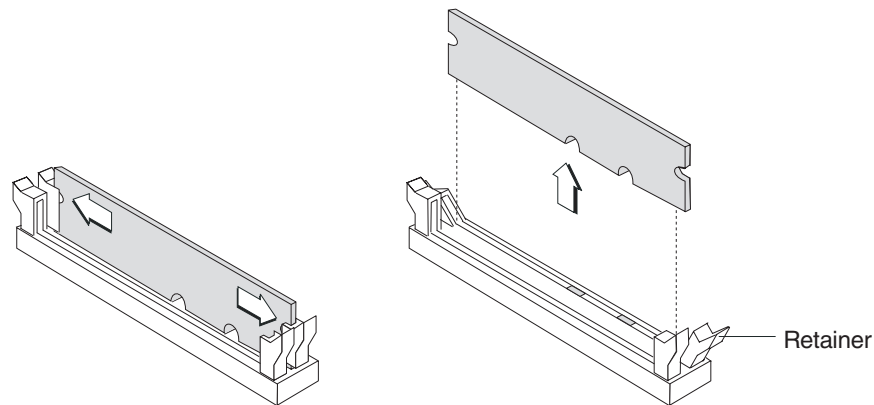

Figure 63. Removing a memory module
6. To remove a memory module, press downward on the white tabs at the ends of the socket until they are both at a 45° angle. The module rises slightly out of the socket. See Figure 63 for reference.